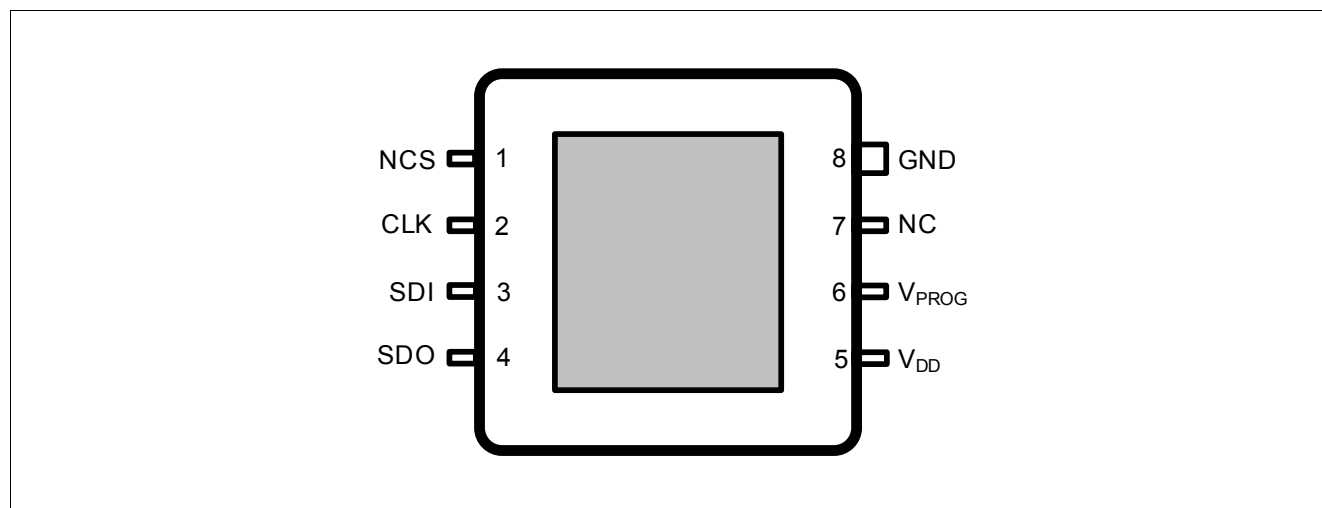

**Figure 1** Pin configuration (top view, figure not to scale)
**Figure 1** shows the pin configuration.